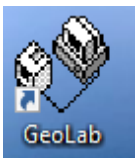

Figure 1. GeoLab Icon.
1. Click on the **GeoLab** Icon on the Desktop to start the **GeoLAB** application (*Figure 1*).